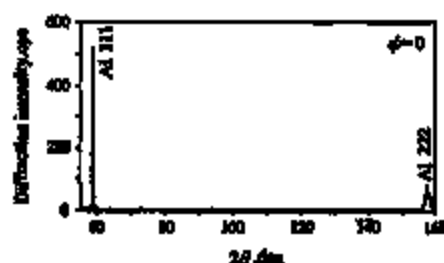

Fig. 1. Diffraction pattern of Al film deposited on a thermally oxidized (111) Si substrate.
In order to make a quick search for the structure of Al film, a diffraction pattern was taken from the sample. Fig. 1 shows an example measured by Cr K $\alpha$  characteristic radiation at an angle of  $\psi = 0^\circ$ . It shows that only two diffraction peaks, i.e. 111 at  $2\theta = 58.6^\circ$  and 222 at  $2\theta = 156.7^\circ$ , appear in the whole  $2\theta$  range. This means the (111) plane of the aluminum crystal is parallel to the surface of the Al film. An additional observation at any orientation of the film surface revealed that the Al film is composed of small crystals and that each crystal has  $2\pi$  rotational freedom about the  $\langle 111 \rangle$  orientation which is the same to the normal of the film surface as has been assumed previously.